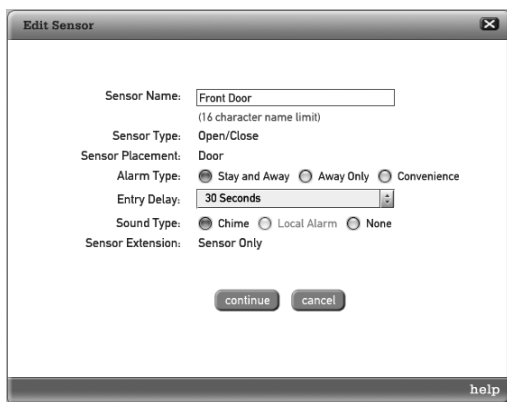

Figure 35. LifeShield Edit Sensors Screen - Edit Chime Enabled
**Chime** generation can be enabled or disabled for each **Sensor** (Figure 35):